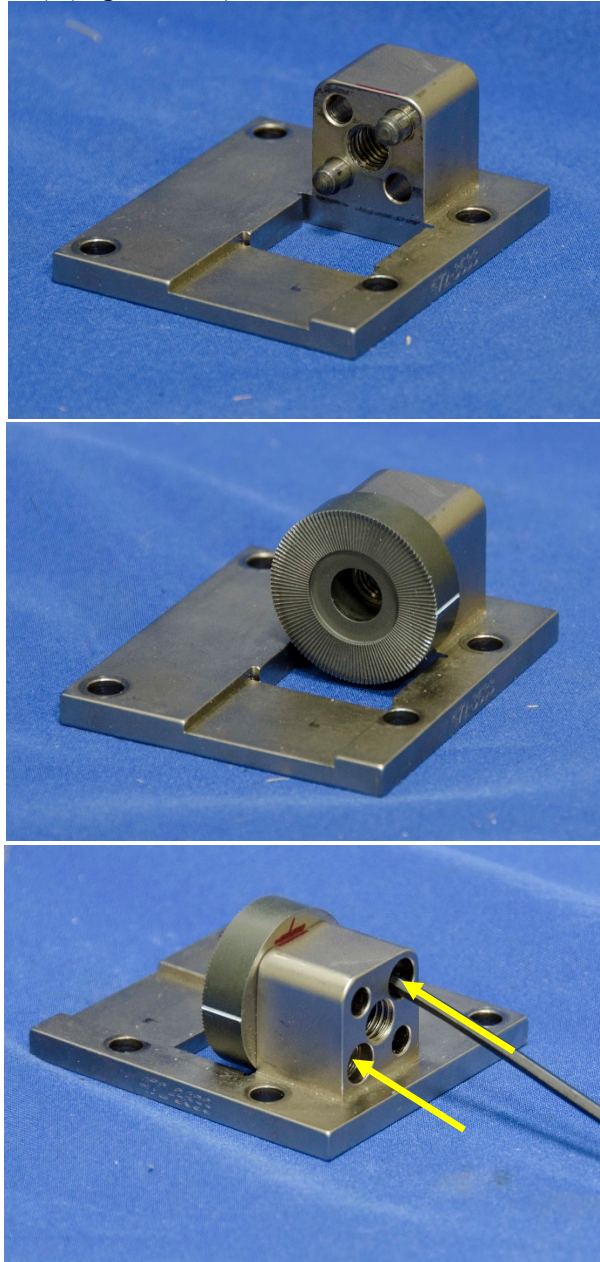

Figure 5-24. Install neck pitch change mechanism star pattern 2 to base plate
- 5.2.2.15 Assemble the Neck Pitch Mechanism Assembly (472-3630). Install the Neck Pitch Change Mechanism Star Pattern 2 (472-3631) over the two Pull Out M6 x 20 Dowel Pins (5000445) on the Neck Pitch Change Mechanism Base Plate (472-3633). Secure the star pattern 2 using two Neck Pitch Change Mechanism Bolts (472-3634) (Figure 5-24).